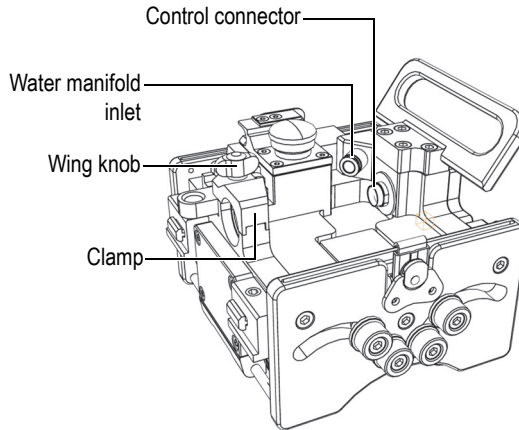

Figure 2-4 WeldROVER—umbilical fastening mechanism and connectors
3. Unscrew the wing knob to release the clamp on the fastening device (see Figure 2-4 on page 27).